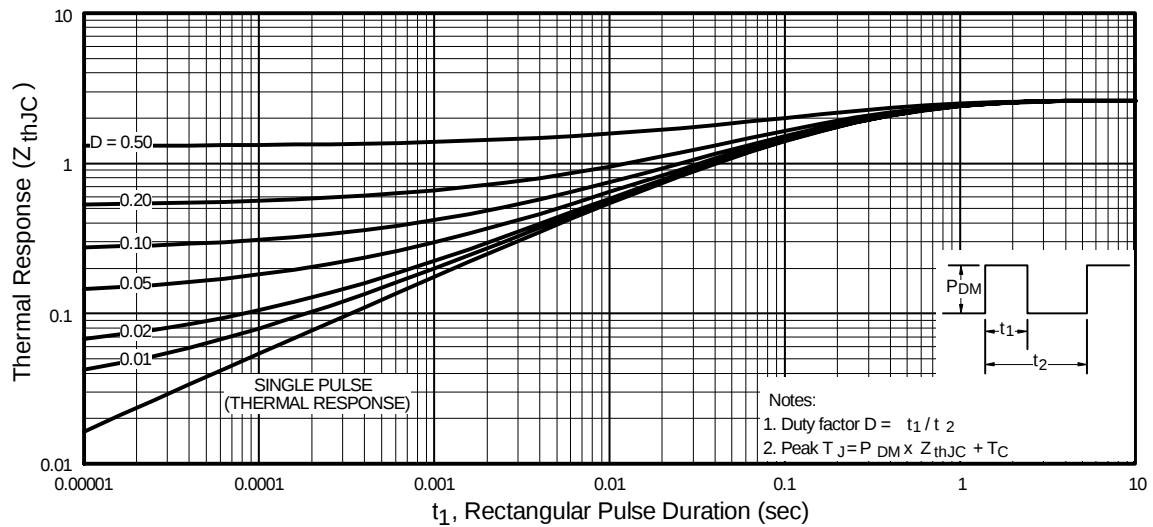

Fig 11. Maximum Effective Transient Thermal Impedance, Junction-to-Case
① Repetitive rating; pulse width limited by max. junction temperature. (See fig. 11)
② $V_{DD} = 25V$, starting $T_J = 25^\circ\text{C}$, $L = 390\mu H$